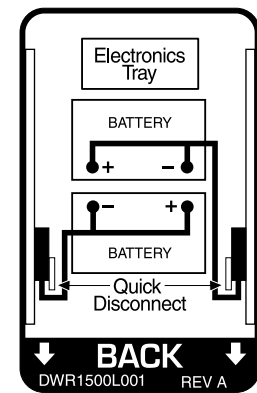

Figure 26. Blast Battery Wiring Diagram
- Check all electrical connections. Make sure they are tight and are not corroded. Batteries must sit flat within the battery well, with the battery terminals facing inward, toward each other. Refer to the frame decal for the correct wiring layout. See figure 26.
A diagram is printed on a decal located on the Blast frame near the battery tray. See figure 26.
10. Place the batteries on the battery tray with the opposite terminals facing each other. See figure 26.